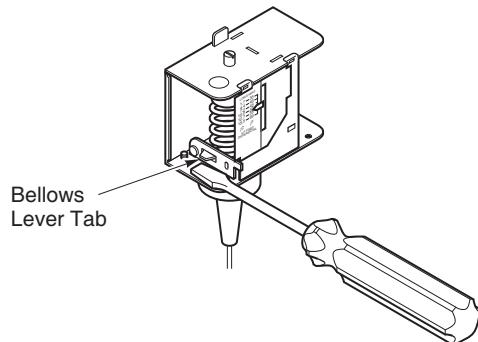

Figure-5 Manual Operation of Switch on TC-5231 and TC-5241.
- When the sensed temperature is below setpoint, the switch is open (terminals 2-3 on TC-52x1 and terminals L-T on TC-5232), and the tab at the end of the bellows lever is down. The switch can be momentarily closed by lifting the tab with a screwdriver. See Figure-5.